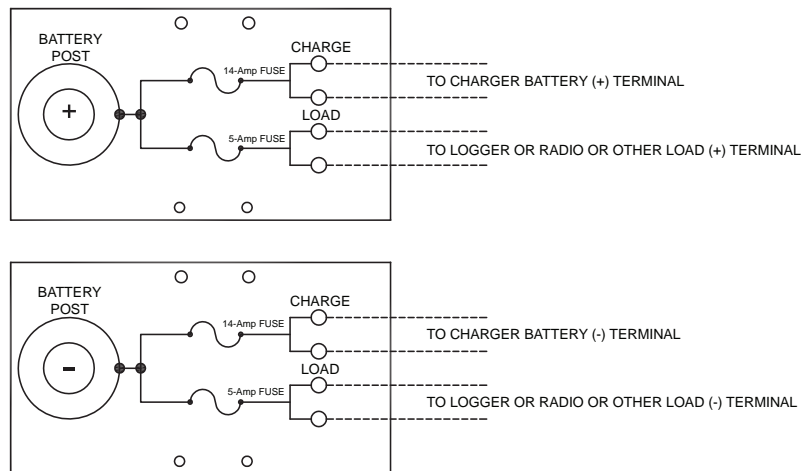

FIGURE 3-19. Battery terminal strip adapters for power connection to external battery
- 2b. If using a deep cycle marine battery, install Battery Terminal Strip Adapters (pn 4386) to each terminal of the battery as shown in FIGURE 3-19. Using the red and black power cable that ships with the CH200, plug the end with the two-pin connector into the BATT terminal on the CH200. Connect the black cable to the "charge" terminal on the Battery Terminal Strip Adapter installed on the battery's negative terminal. Connect the red cable to the "charge" terminal on the Battery Terminal Strip Adapter installed on the battery's positive terminal. The LED on the regulator labeled 'CHG' **SHOULD NOT** be on.
2. If using deep cycle marine battery along with the SP50 or SP85 solar panels, install Battery Terminal Strip Adapters (pn 4386) to each terminal of the user-supplied deep cycle battery as shown in FIGURE 3-19.